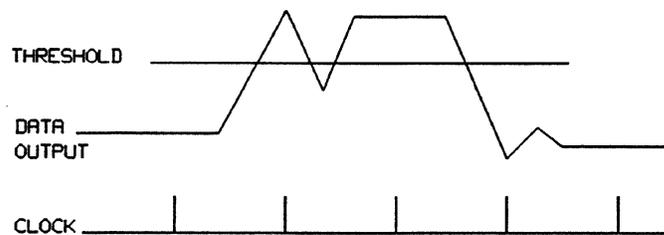

Figure 4-17. Glitch Detection
In either of the analysis modes glitch detection capability is provided on all channels. When enabled, two or more data signal transitions between two consecutive sampling points (that is one clock period) are interpreted as a glitch. Glitch detection operates in Single or Dual Threshold mode. Thus a glitch can occur on a single, upper or lower threshold. The threshold function is explained on the Input Page. A detected glitch is stored in memory and can be displayed on any of the three analysis pages State List, Timing Diagrams and Error Map. A glitch is shown at the next or just after the next sampling point (that is clock edge), depending on which analysis page you select. Figure 4-17 shows a waveform with a glitch occurring between the second and the third clock edge. When glitch detection is enabled the maximum data memory is halved to 8192 (512) words. Glitch detection is not available when in the Trigger Start Compare mode (see the section entitled Real Time Compare Mode at the end of this chapter).